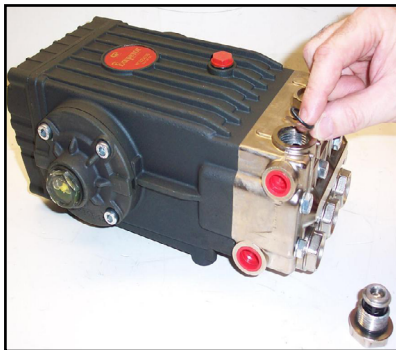

Figure 3. Apply Grease and Install Valves
8. Apply O-ring grease to O-rings and install valves (Figure 3).